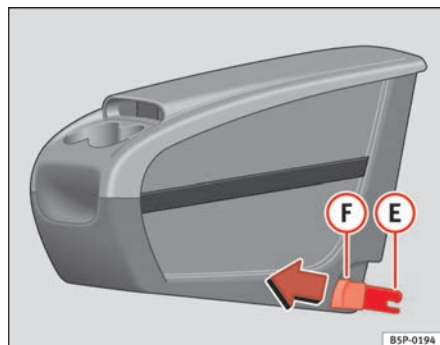
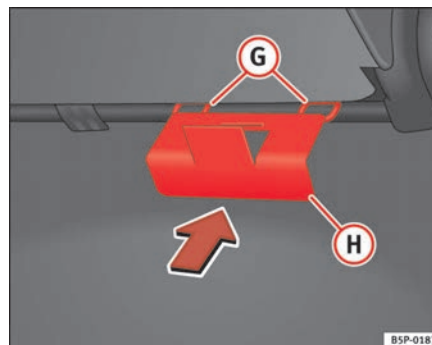

Fig. 112 Mobile stowage compartment installation
Fig. 113 Mobile stowage compartment mounting plate
- Fit the mobile stowage compartment mounting plate ⑧ ⇒ fig. 113 from the inside of the vehicle, through the rear section of the seat. It should be fitted between the back rest and the seat, in the central seat area.
- Set both mounting pieces together (E) ⇒ page 140, fig. 112, with both mounting rings (G) ⇒ page 140, fig. 113 and press hard until both the clips completely connect with the rings.
- Pull each of the buttons ⇒ page 140, fig. 112 (F) on the clips (red buttons) forwards, until they snap out of place.